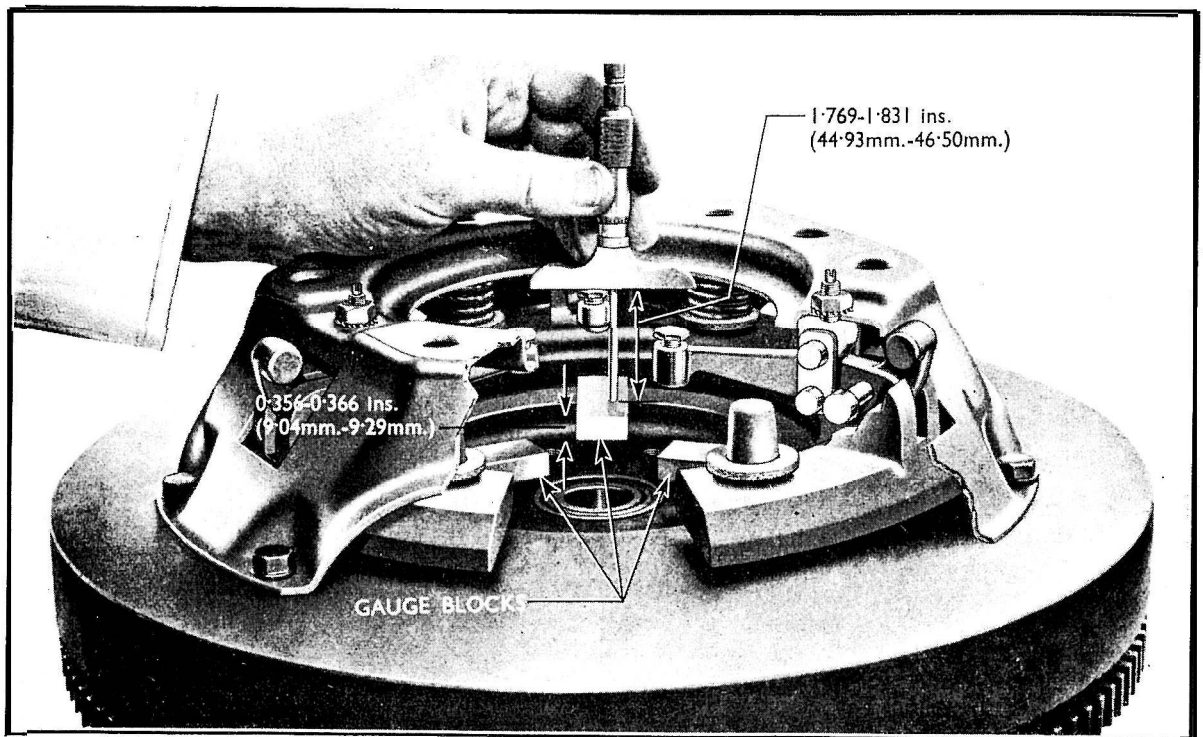

Fig. 7
NOTE.—To carry out the adjustment of the release levers it will be necessary to obtain three gauge blocks which can be made from metal strips 5 in. (127 mm.) long, 0.356—0.366 in. (9.04—9.29 mm.) thick. These are placed between the pressure plate and the flywheel to represent the clutch disc for the purpose of this adjustment. (See Fig. 7.)
adjusting screw and the top face of the gauge block. It is important that the three levers are adjusted in this plane to within 0.015 in. (0.38 mm.). (See Fig. 7.) Remove the clutch assembly from the flywheel.
5. Adjust the release lever adjusting screws, using a depth gauge so that a dimension of 1.769 to 1.831 in. (44.93 to 46.50 mm.) exists between the top of the adjusting screw and the top face of the gauge block. It is important that the three levers are adjusted in this plane to within 0.015 in. (0.38 mm.). (See Fig. 7.) Remove the clutch assembly from the flywheel.